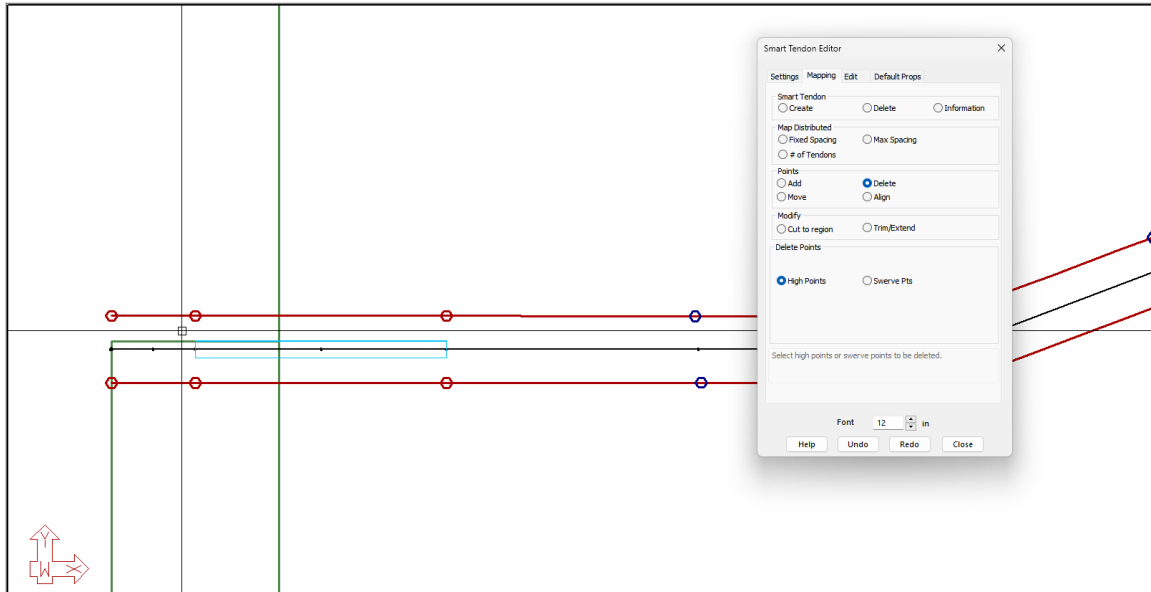

FIGURE 9-44
- We are now going to draw a two-point construction line through the leftmost span of the top tendon, near the high point, to delete it. Click below the leftmost span of the top tendon as shown in **FIGURE 9-44**.